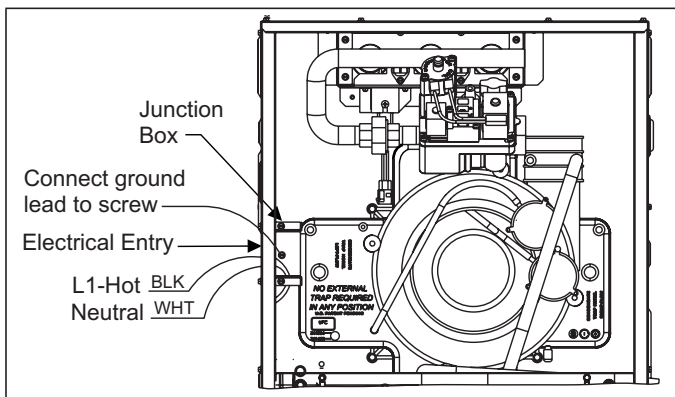

FIGURE 15: Electrical Wiring
2. Remove the screws retaining the wiring box cover. Route the power wiring through the opening in the unit into the junction box with a conduit connector or other proper connection. In the junction box, there is 2 wires: a Black Wire and a White Wire. Connect the power supply as shown on the unit-wiring label on the inside of the blower compartment door or the wiring schematic in this section. The black furnace lead must be connected to the L1 (hot) wire from the power supply. The white furnace screw must be connected to neutral. Connect the power supply ground to the green screw (equipment ground) An alternate wiring method is to use a field provided 2" (5.1 cm) x 4" (10.2 cm) box and cover on the outside of the furnace. Route the furnace leads into the box using a protective bushing where the wires pass through the furnace panel. After making the wiring connections, replace the wiring box cover and screws. Refer to Figure 15.
3. The furnace's control system requires correct polarity of the power supply and a proper ground connection. Refer to Figure 15.